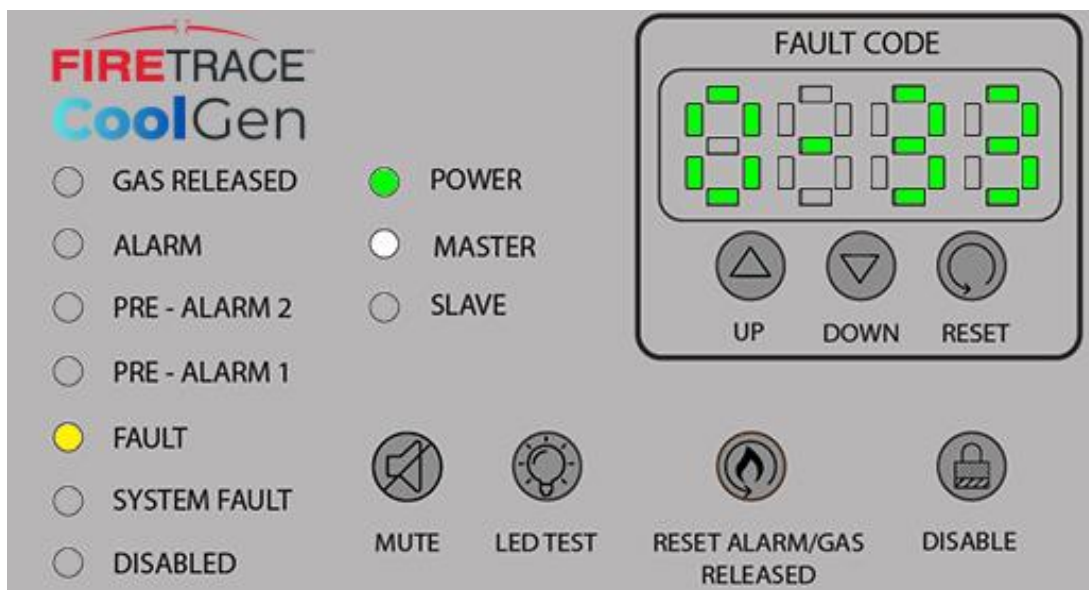

Figure 34 UI Open Door fault slave
- For slave system #2 that has a Door Open fault, UI panel will look like Figure 34 (this same fault code will also be show on the display of the master system)